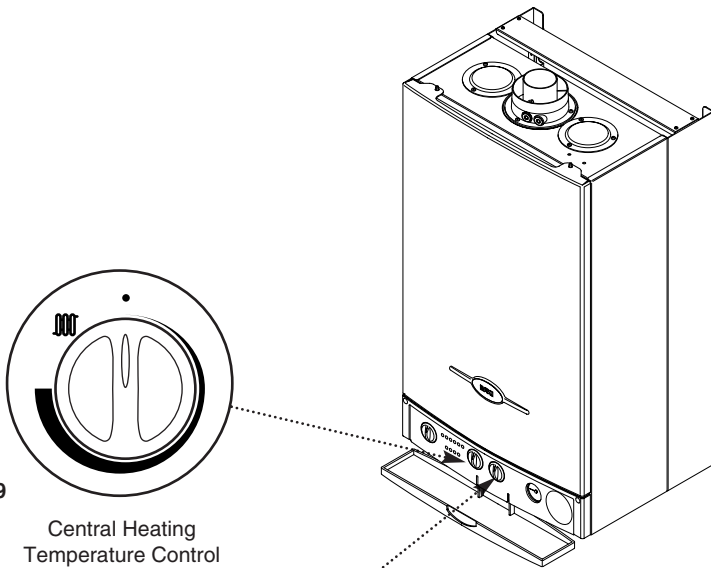

Fig. 9
- Turn the control knob clockwise to increase the temperature (Fig. 9).